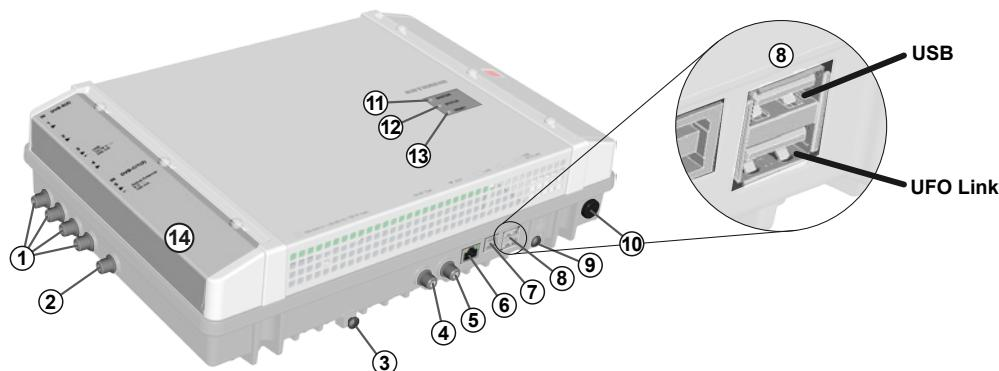

Fig. 1: Device elements
Exception: Cover of the CI slots (④ in Fig. 1, P. 3)
1. Connect a potential equalisation wire (Cu,  $\geq 4 \text{ mm}^2$ ) to the earthing screw; see ⑨ in Fig. 1, P. 3.
- The plugs must be inserted into the master and slave at the appropriate UFO link interface ports (⑧ in Fig. 1).
4. Connect the RF signal cables for the antenna, cable network and output to the head-ends; see ①, ② and ⑤ in Fig. 1, P. 3.